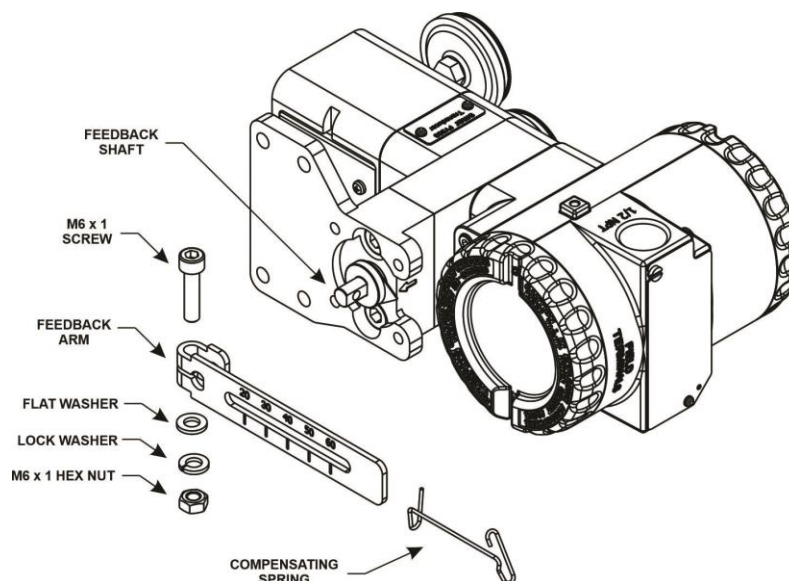

Figure 1.11 – Feedback arm assembly
5. Attach the feedback arm to the end of the feedback shaft with M6x1 screw, M6 hex nuts, lock washers, and flat washers. The markings on the feedback arm must be visible to the operator/installer. Install the compensating spring on the feedback arm. See figure 1.11.